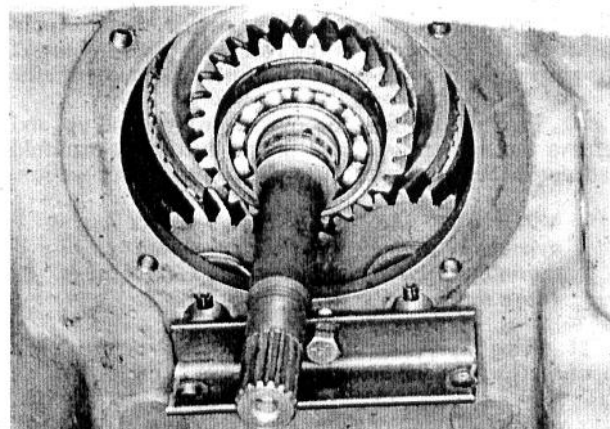

Fig. 53 — Installing Idler and Countershaft Stop
8. Position a block, or stop, across the ends of the idler and countershafts, as shown in Fig. 53.